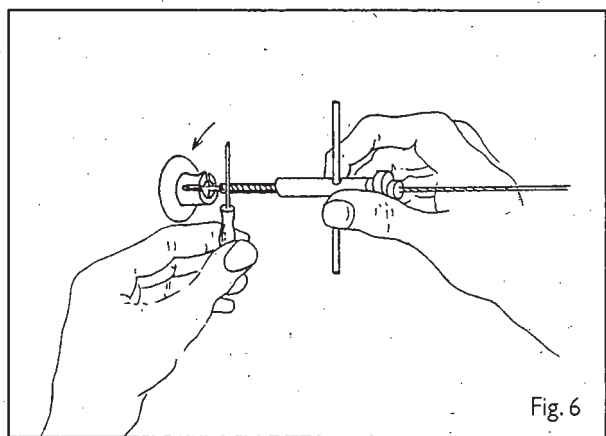

Fig. 6
3. Insert the steel pin in the hole in the tension lock and the screwdriver in the hole in the tightening screw. Arrest the tension lock with the steel pin and turn the tightening screw only in an anti-clockwise direction to tauten the cable (Fig. 6).